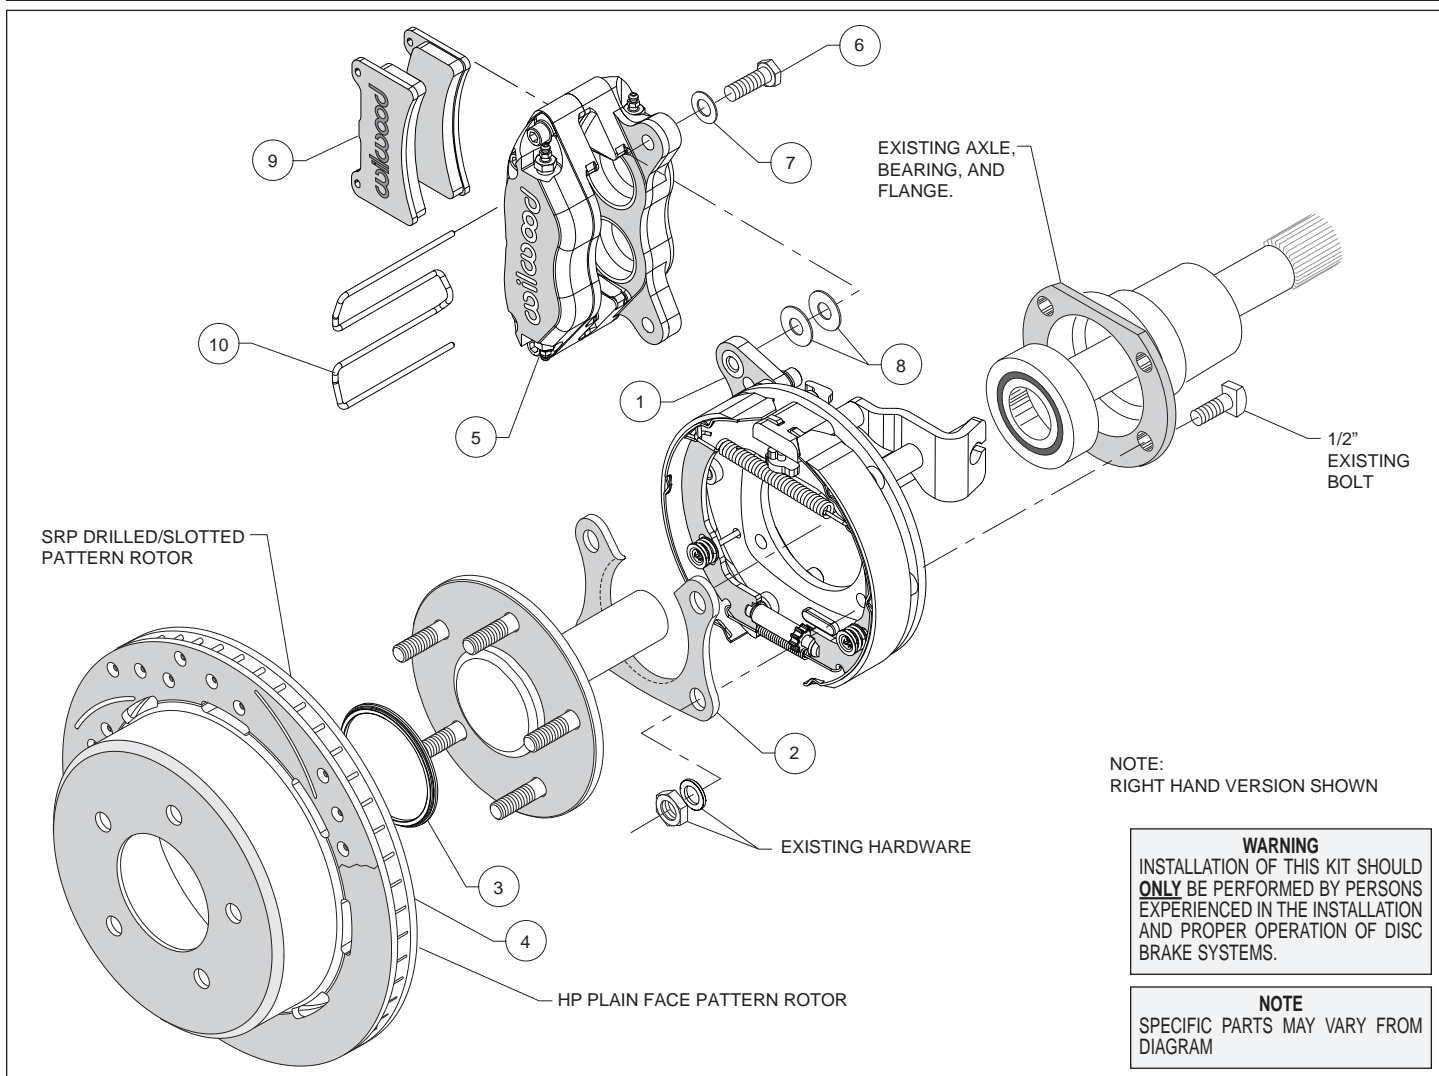
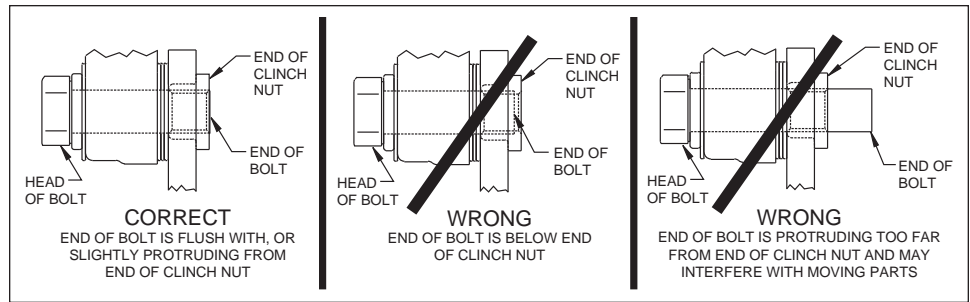

Figure 1. Typical Installation Configuration
Figure 5. Clinch Nut Engagement Diagram
Assembly Instructions (numbers in parenthesis refer to the parts list, and Figure 1 on the preceding pages): **CAUTION:** All mounting bolts must fully engage clinch nuts. Be sure to check that all bolts are either flush or protruding through flanged side of clinch nut after shimming, Figure 5.
- Orient the bracket assembly (1) as shown in Figure 1 and Photo 1 and slide it onto the axle. Insert the axle and bracket into the axle housing. Ensure that the bracket assembly backing plate fits flush against the axle housing flange.
- Install the bearing retainer (2) with the opening pointing upward and the lip facing inward (toward the bearing), as shown in Figures 1 and 4, and Photo 2. Secure retainer and bracket assembly to the axle housing flange using the Original Equipment Manufacturer (OEM) bolts, washer, and nuts, Figure 1. Apply red *Loctite*® 271 to the OEM bolt threads and torque to OEM specifications.
•Slide the rotor registration adapter (3) onto the axle register on the axle flange with the smaller O.D. facing toward the rotor/hat (4), Photo 3. Align the hole pattern in the rotor/hat with the stud pattern on the axle flange and slide into place, Figure 1 and Photo 4. **NOTE:** The rotor/hat must fit flush against the axle flange or excessive rotor run out may result. Install three lug nuts (finger tight) to keep the rotor/hat assembly in place while continuing with the installation. **NOTE:** Some OEM and after market axles come with stud sizes larger than 0.50" diameter. Verify stud size and have a qualified machine shop drill the bolt circle of the hat/rotor to the correct stud size, if necessary.
•**NOTE:** Please reference the caution statement at the beginning of the assembly instructions. Mount the caliper (5) onto the caliper mounting bracket (1) using bolts (6) and washers (7), as shown in Figure 1. Initially place two .035" thick shims (8) on each bolt between the caliper and the bracket, Photo 5. Temporarily tighten the mounting bolts and view the rotor (4) through the top opening of the caliper. The rotor should be centered in the caliper, Photo 6. If not, adjust by adding or subtracting shims between the bracket and the caliper. Always use the same amount of shims on each of the two mounting bolts. **NOTE:** The end of each bolt must be flush with or slightly protruding from the head of the clinch nut, as shown in Figure 5. If necessary place spare shims between washer (7) and caliper mounting ear to achieve the proper clinch nut engagement. Once the caliper alignment and clinch nut engagement are correct, remove the bolts one at a time, apply red *Loctite*® 271 to bolt threads, and torque to 40 ft-lb.